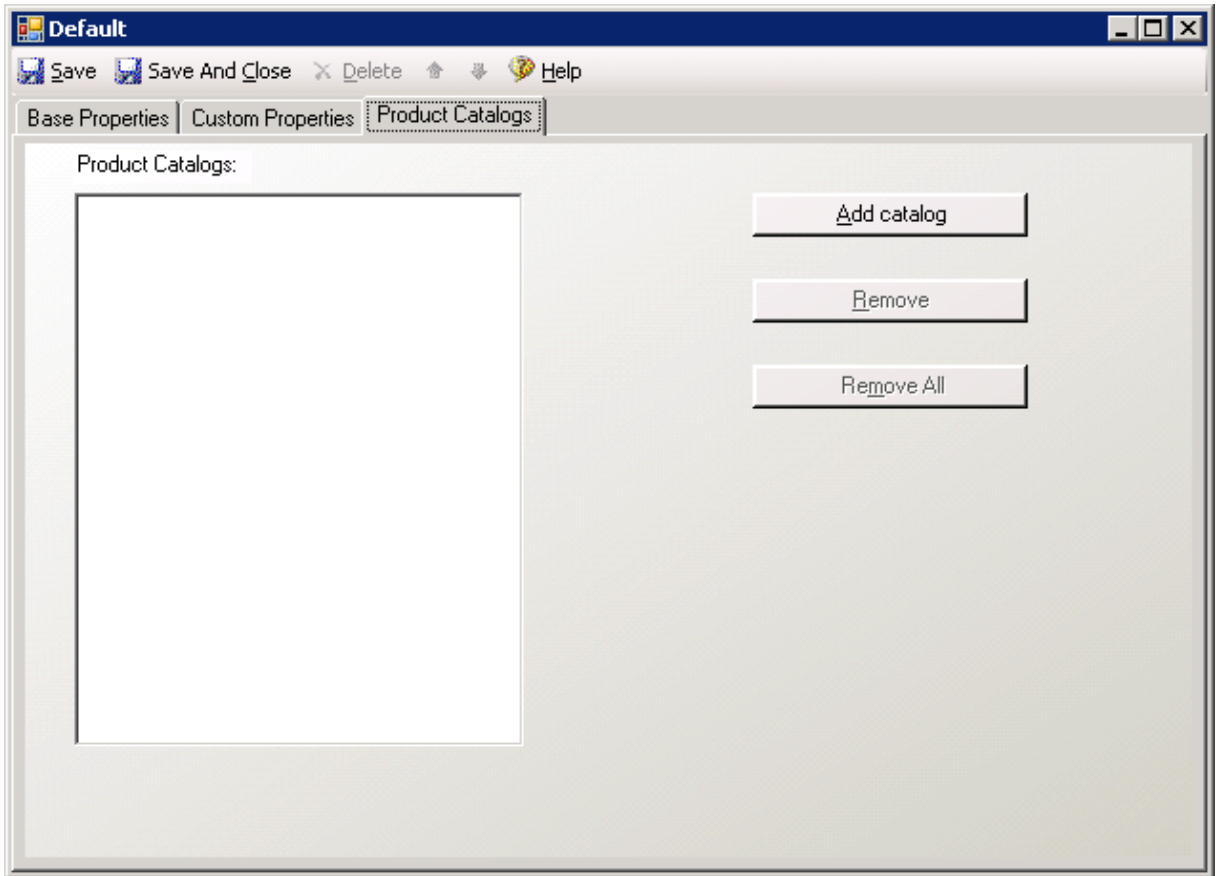

Figure 4-8
5. Click the Product Catalogs tab (Figure 4-8). By default, no product catalogs have been added to the default inventory catalog. To add our catalogs, click the Add Catalog button.